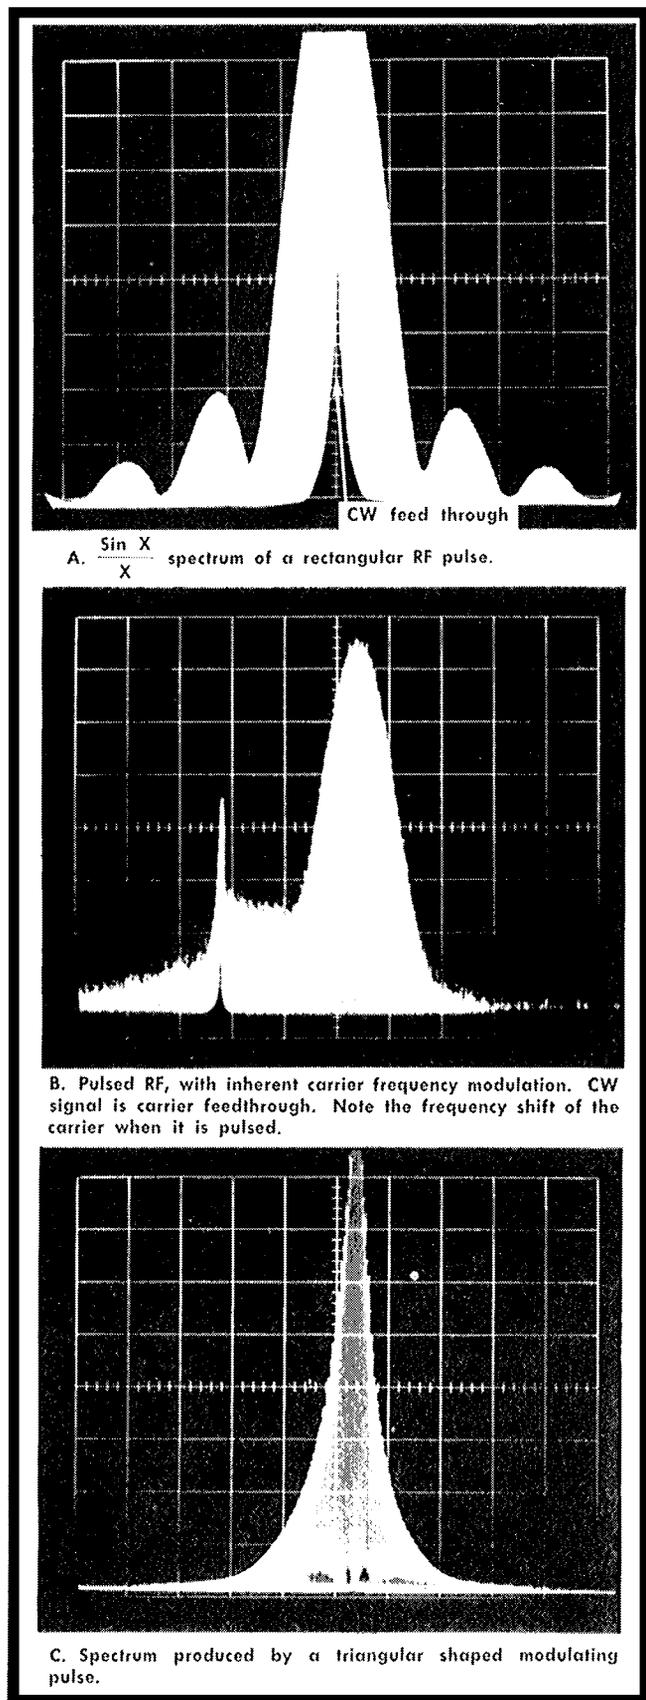

Fig. 2-22. Pulse shaping effects on the pulse spectrum.
The spectrum envelope, however, is plotted with pulses instead of lines. If the analyzer is swept slowly, it will plot a series of pips or lines, the focus of which represents the relative energy distribution of the swept spectrum. The number or density of these pips for a given PRF will depend on the sweep speed, or TIME/DIV selection, on the analyzer. It is possible, by sweeping very slowly, to obtain the spectrum of a very low PRF signal. This display closely simulates a pulsed spectrum and contains the same information for analysis. This spectrum may now be resolved, since the resolution bandwidth of the analyzer need only be less than the side lobe frequency width, or the reciprocal of the modulating pulse width. Fig. 2-22 illustrates the effects the pulse shape will have on the RF spectrum. Notice the reduction of side lobes when the pulse is no longer rectangular; Fig. 2-22C.
4. A spectrum without deep minima points adjacent to the main lobe indicates the presence of frequency modulation. See Fig. 2-22.